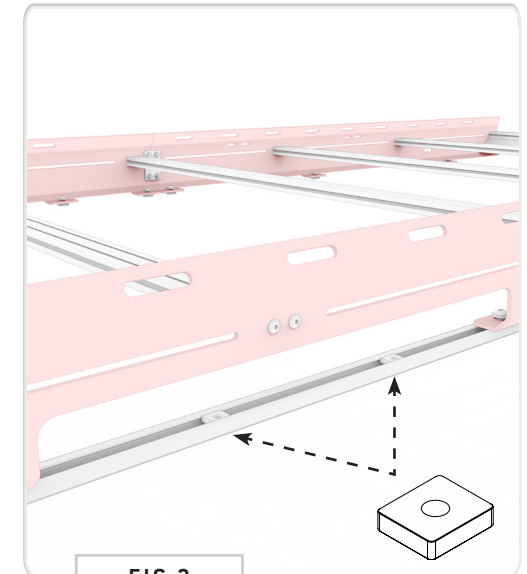

FIG 2
PRO-TIP: *If you're installing a side ladder, put two (2) extra rail nuts in on the driver side (FIG 2).*